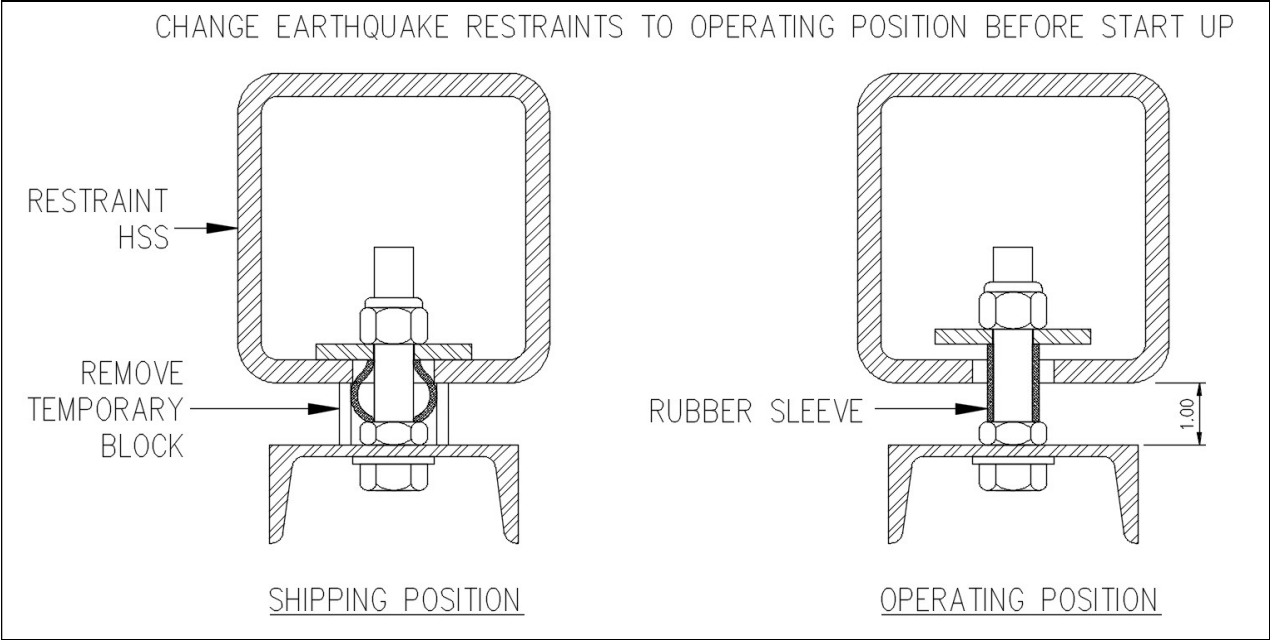

Figure 29: Changing Restraints to Operating Position.
3) Once the earthquake restraints have been changed to operating position, the fan should float freely on its isolators. The operating height of the isolators has been set in the factory but adjustments can be made by rotating the top cap of each spring. Adjust the operating height of the entire fan assembly by moving all of the top caps up or down by an equal amount. More weight can be transferred to an individual isolator by moving its top cap downwards. If, for example, one isolator is compressed too much, adjust its top cap upwards and the top caps of adjacent springs downwards (ref. Figure 29)